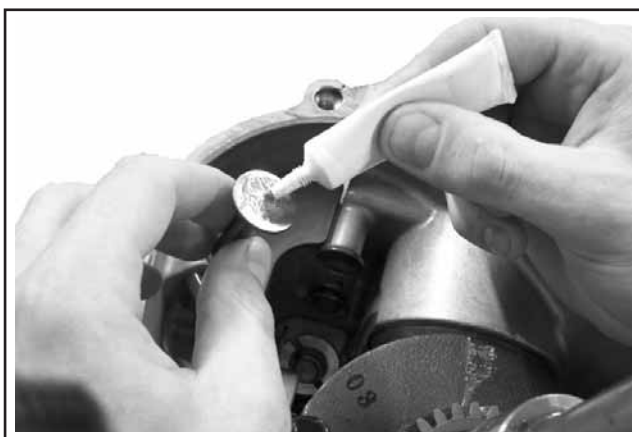

Figure 10-12. Applying Camshaft Lubricant to Valve Tappets.
1. Apply camshaft lubricant (Kohler Part No. 25 357 14-S) to the contact surface of the valve tappets. Note the mark or tag identifying the tappets and install them in their appropriate crankcase locations. See Figure 10-12. A small amount of grease applied to the stems will hold the valve tappets up until the camshaft is installed.